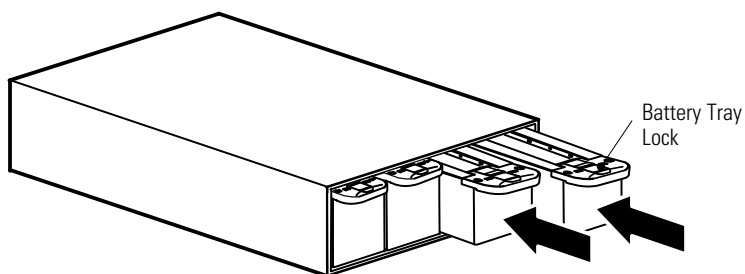

Figure 42. Installing the Battery Trays
5. Slide the new battery trays into the EBM cabinet (see Figure 42). Push each tray in until the battery tray lock on the handle catches to lock the tray in place.